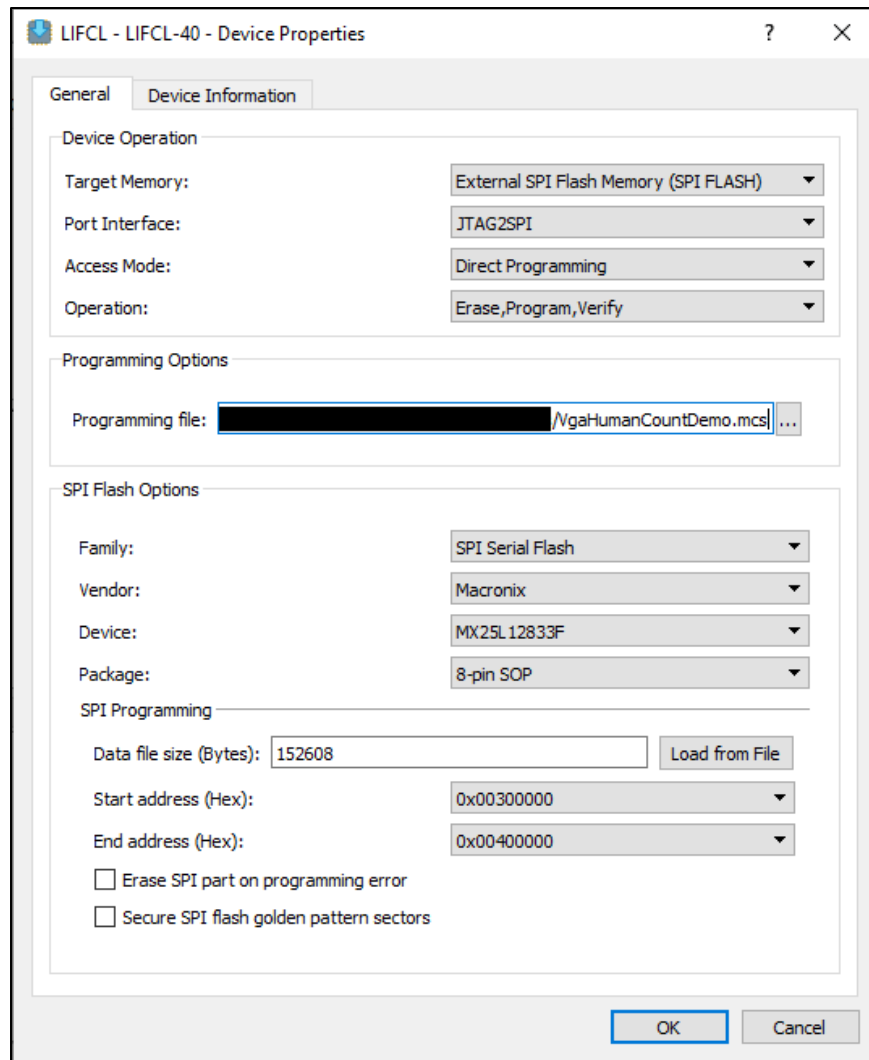

Figure 4.8. Radiant Programmer – Selecting Device Properties Options for CrossLink-NX Voice and Vision Machine Learning (Rev B) Flashing
- c. For **SPI Flash Options**, make the selections as shown in Figure 4.8.